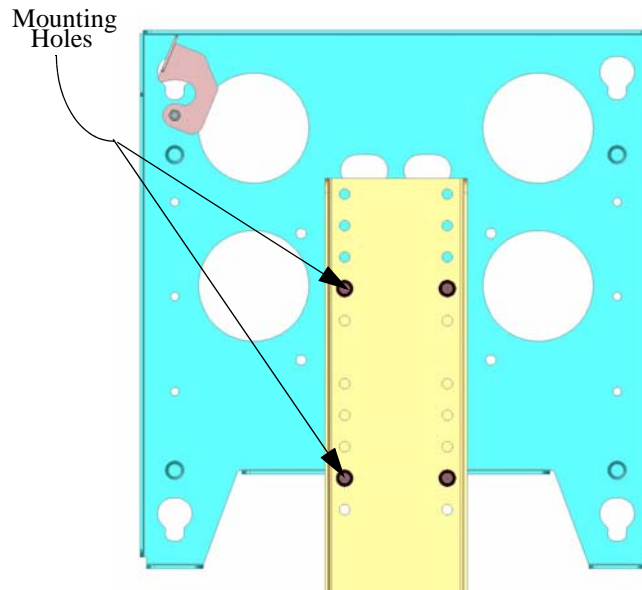

FIGURE 5. BACK TO POST
5. At approximately the desired viewing height (4" of adjustment), align the four mounting holes of the top assembly with four mounting holes of the post assembly (see Figure 5).
7. Using four 5/16-18 X 5/8" button head cap screws, secure the top assembly to the post assembly (see Figure 5).